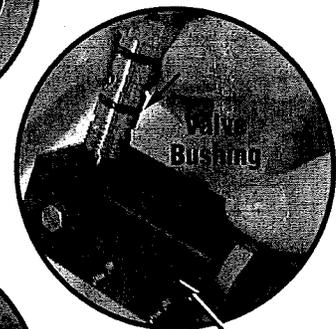

Figure 2
7. Insert the new Valve Bushing through the new DVOA (see fig. 2). The markings on top of the DVOA must be facing up. This will be needed in step 9.